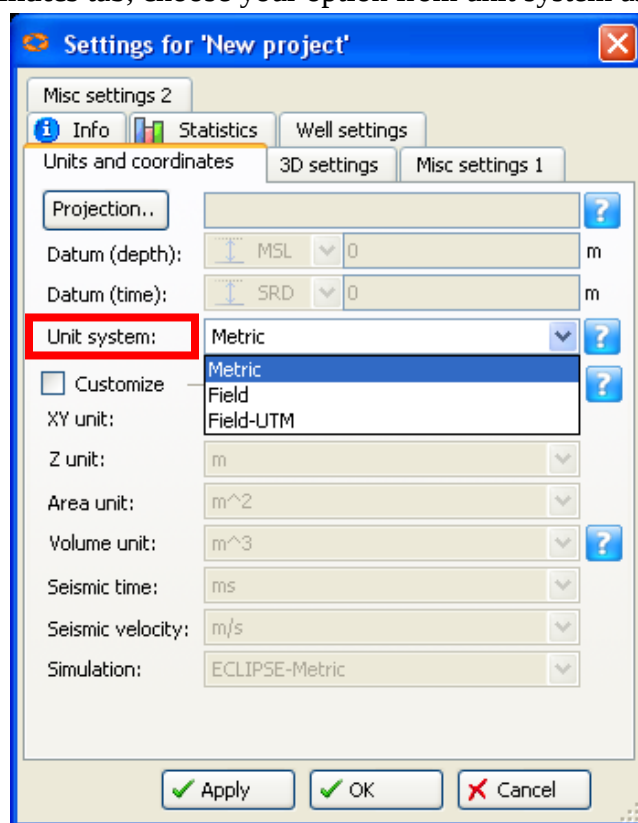

Fig.4.33: Settings for “New project”
2. From **Units and coordinates** tab, choose your option from unit system as shown in Fig.4.33